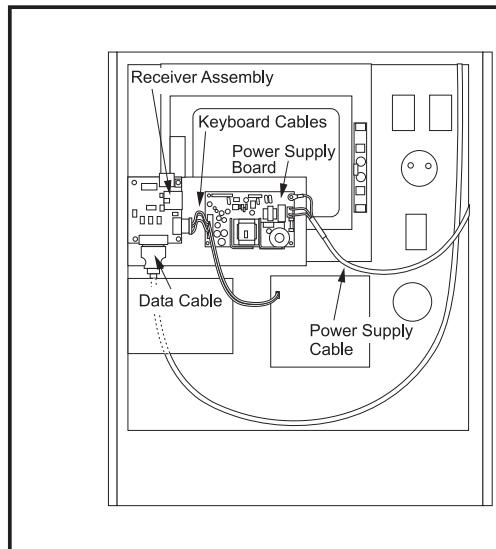

Figure 4.5-1 Interior of control panel (rear).
6. Remove the four (4) hex nuts and washers beginning with the bottom, then remove the LCD assembly and set aside in a safe place.
7. Replace by sliding the new assembly onto the four bolts (two each on top and bottom). Place the washers and hex nuts on the bolts to hold in place. Refer to Fig. 4.5-1. Once all washers have been attached and nuts have been hand-tightened, tighten down completely.